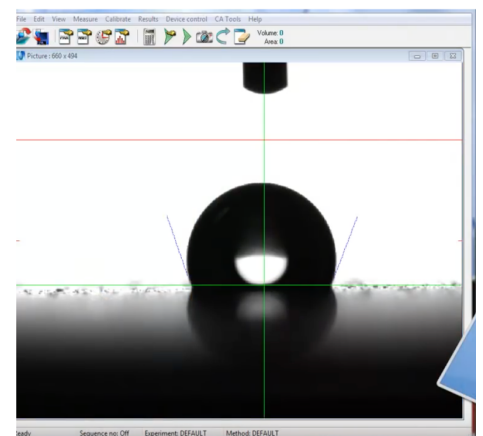

Figure 6 Active Contact Angle Screen with line placement
- b. Next Focus on the drop. Use the front knob D so you see a small amount of the reflection of the drop in the substrate, figure 6.
- c. Move the vertical green line by left or right mouse button to the center of the drop, see Figure 6.